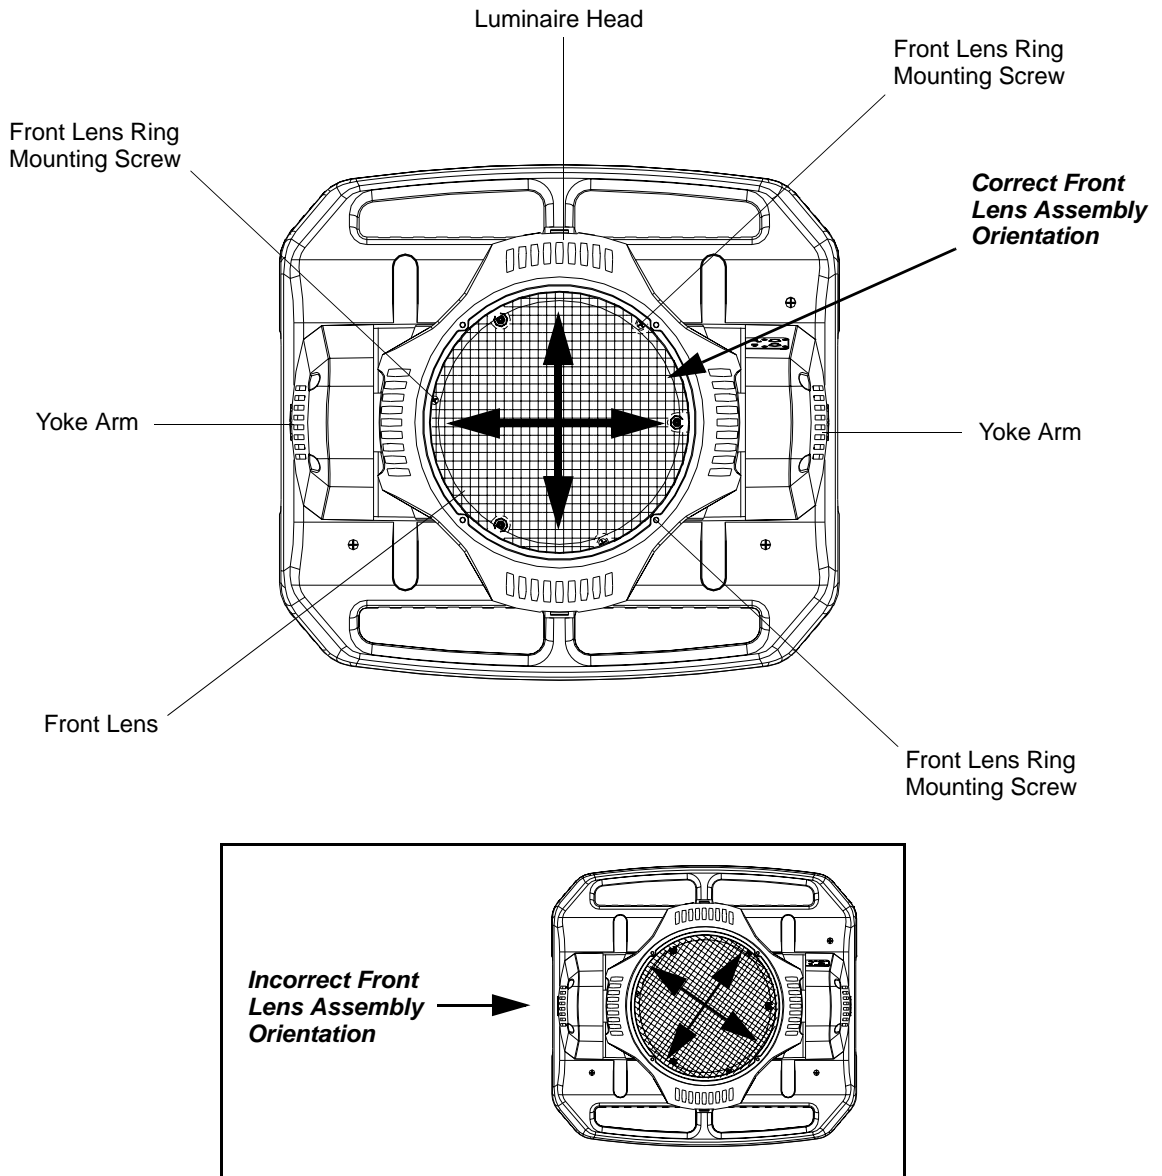

Figure A-4: Front Lens Orientation
Step 8. Once cleaning is complete, reassemble by performing Steps 6 through 2 in reverse order. Be sure to orient front lens as shown in Figure A-4.